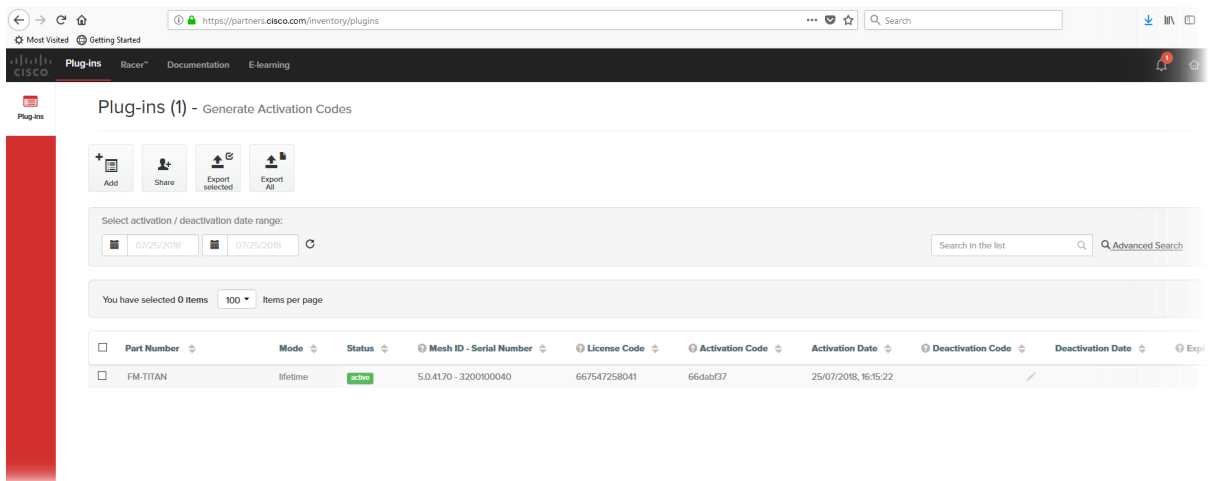

Figure 68. Partner Portal Plug-ins page (License code deactivation)
- The Plug-ins web page will be shown (Figure 68 \(page 149\)).